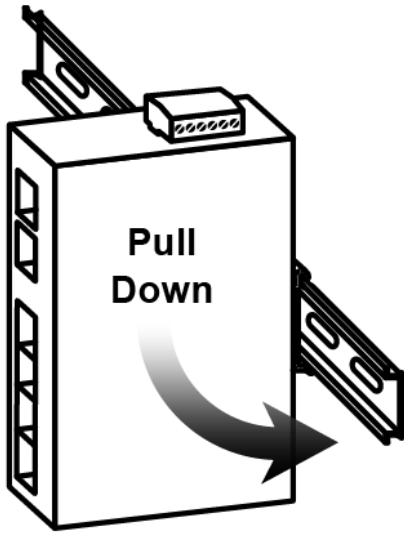

Figure 3.3: Stable the Switch on DIN-Rail
- Step 4. Lightly pull down the bracket on to the rail as shown below in Figure 3.3.